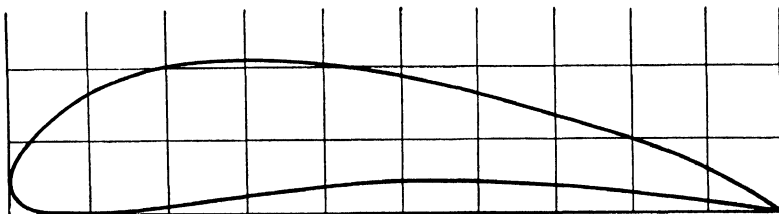

Fig. 183.
3. Find the data for the section in Fig. 183 by measuring to the nearest 64th.